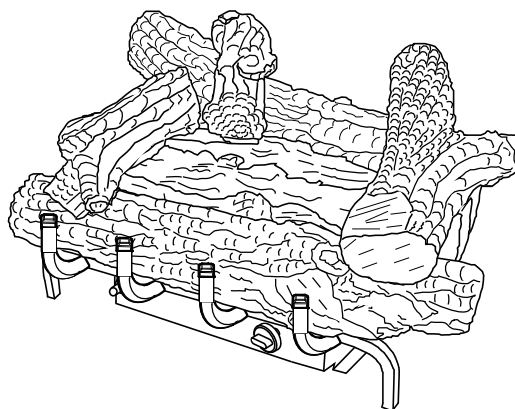

Figure 30 - Final assembly
- Final assembly is shown in **Figure 30**.